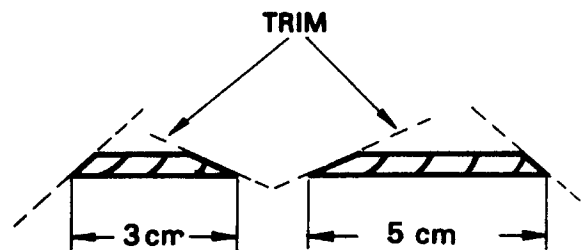

Fig. 13
16. Trim the launch lugs, as shown in Fig. 13, with a knife. Glue the forward lug along the joint between the forward fin and the Main Body, on the left side of the Main Body. Glue the rear lug at the joint between the rear lower fin and the Main Body tube on the left side. Sight through the lug to make sure that they line up straight.